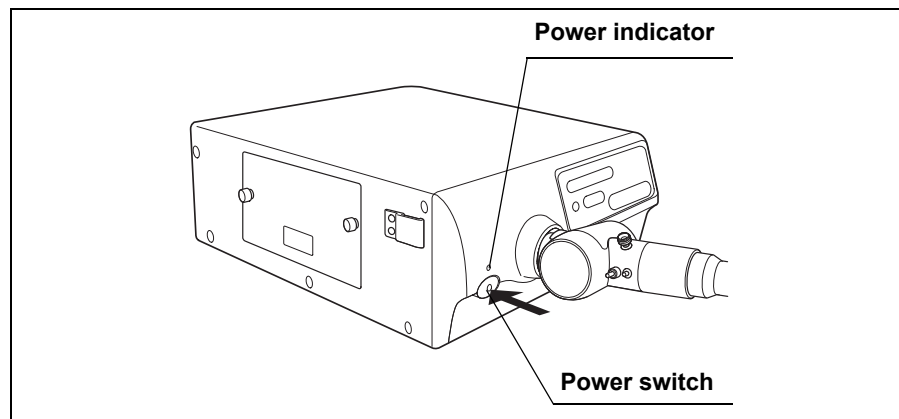

Figure 3.3
7. Press the power switch of the light source. The power indicator lights up (see Figure 3.3).